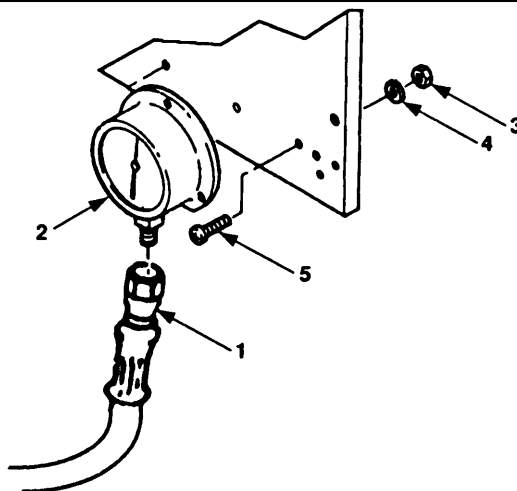

Figure 4-46. Suction Gauge (M4) and Discharge Gauge (M5) Replacement.
- Tag and disconnect hose (figure 4-46, 1) from gauge (2).
- Remove three nuts (3), lockwashers (4), and screws (5) from gauge (2) .
- Remove gauge (2) from front of control panel.
- Install gauge (2) through front of control panel.
- Install three screws (5), lockwashers (4), and nuts (3) on gauge (2).
- Connect hoses (1) to gauge (2) and remove tags.